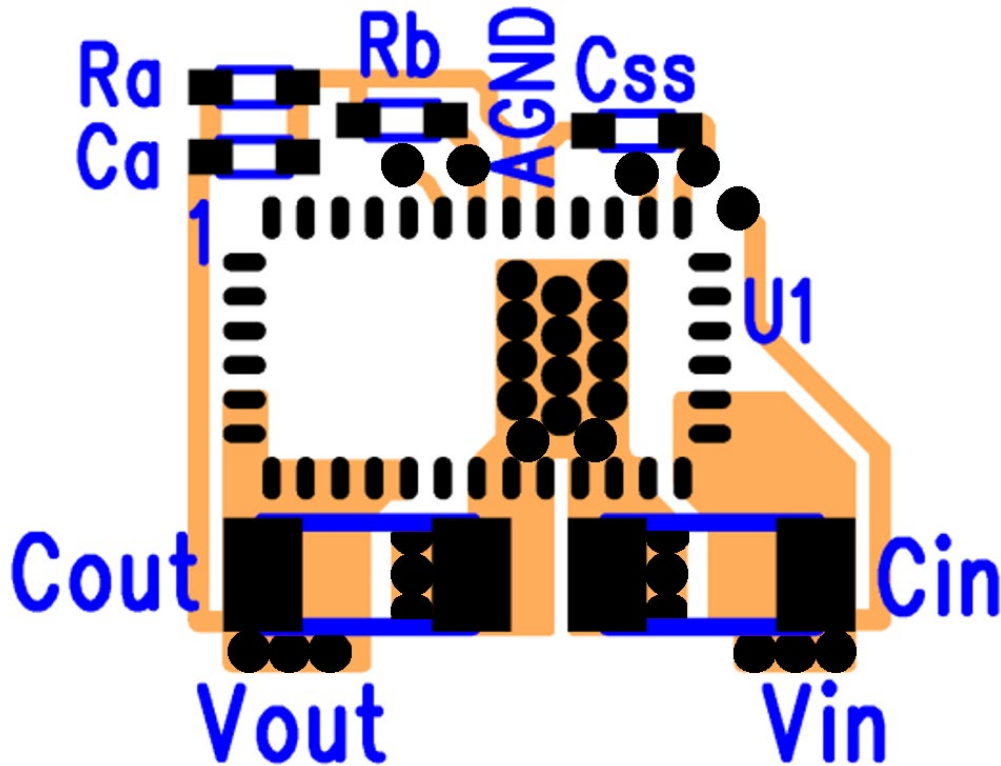

Figure 10. Top PCB Layer Critical Components and Copper for Minimum Footprint (Top View)
**Recommendation 2:** Three PGND pins are dedicated to the input circuit, and three to the output circuit. The slit in Figure 10 separating the input and output GND circuits helps minimize noise coupling between the converter input and output switching loops.
**Recommendation 5:** Multiple small vias (the same size as the thermal vias discussed in recommendation 4) should be used to connect ground terminal of the input capacitor and output capacitors to the system ground plane. It is preferred to put these vias under the capacitors along the edge of the GND copper closest to the +V copper. Please see Figure 10. These vias connect the input/output filter capacitors to the GND plane, and help reduce parasitic inductances in the input and output current loops. If the vias cannot be placed under  $C_{IN}$  and  $C_{OUT}$ , then put them just outside the capacitors along the GND slit separating the two components. Do not use thermal reliefs or spokes to connect these vias to the ground plane.
**Recommendation 6:** AVIN is the power supply for the internal small-signal control circuits. It should be connected to the input voltage at a quiet point. In Figure 10 this connection is made at the input capacitor close to the  $V_{IN}$  connection.
**Recommendation 7:** The layer 1 metal under the device must not be more than shown in Figure 10. See the section regarding exposed metal on bottom of package. As with any switch-mode DC-DC converter, try not to run sensitive signal or control lines underneath the converter package on other layers.